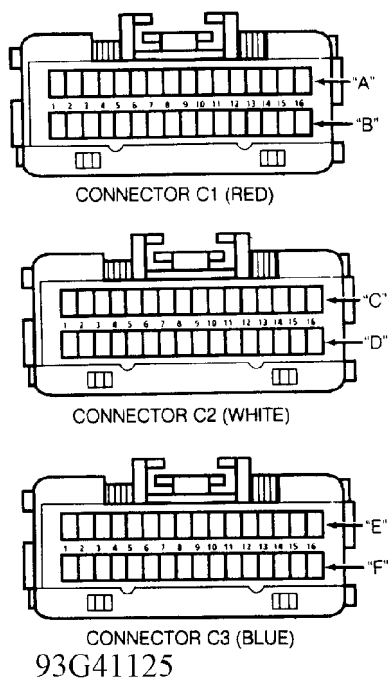

Fig. 4: Identifying PCM Connector Terminals (4.6L)
6) If voltage is fixed at zero volts, go to next step. If voltage is fixed at 12 volts, turn engine off. Turn ignition on and disconnect PCM connector C2. See Fig. 4 or 5. PCM is mounted to right kick panel. Using DVOM connected to ground, measure voltage at PCM connector C1 terminal 1B11 (4.6L) or connector C2 terminal 2B11 (4.9L). If battery voltage is present, replace PCM. If zero voltage is present, repair open in Brown wire circuit between IPC and PCM.